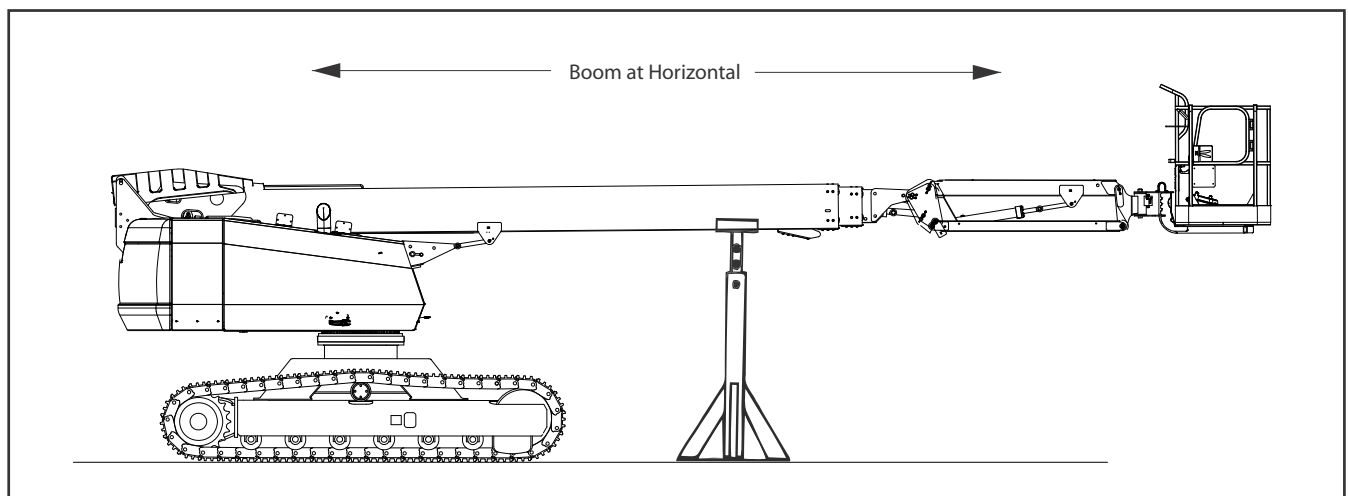

Figure 5-1. Boom Positioning and Support, Cylinder Repair
2. Shut down engine. Support main boom basket end with a prop. (See Figure 5-1., Boom Positioning and Support, Cylinder Repair).
1. Place machine on a flat and level surface. Start engine and place main boom in horizontal position. Shut down engine and prop boom. (See Figure 5-1., Boom Positioning and Support, Cylinder Repair)